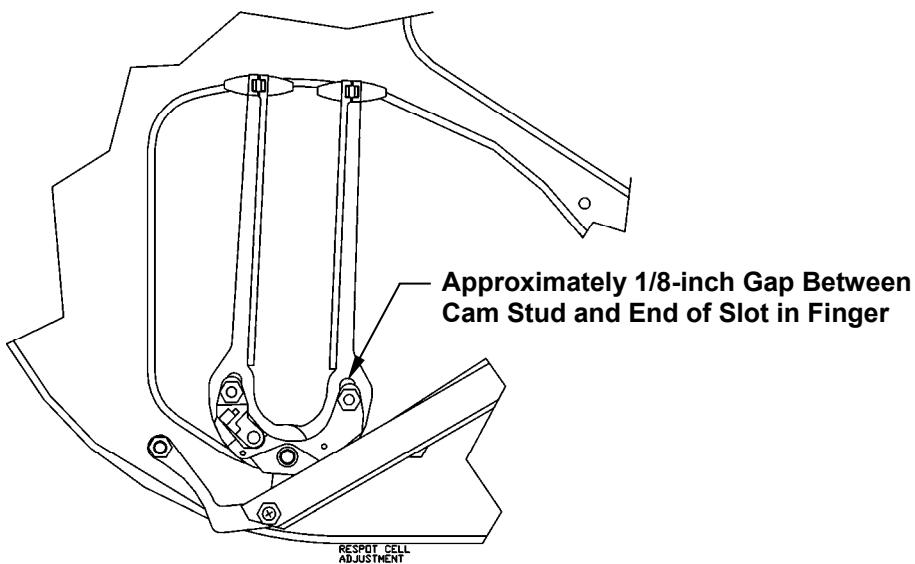

Figure 4.2-22
18. Rotate the front actuator lever to close the cells completely. Adjust the closed position actuator stop screw until it is against the actuator lever. Turn the screw an additional 2 turns. There should be approximately 1/8 inch between the cam studs and the end of the slot on each finger (see Figure 4.2-22). Turning the stop screw in increases the gap. Tighten the jam nut on the closed position stop screw.